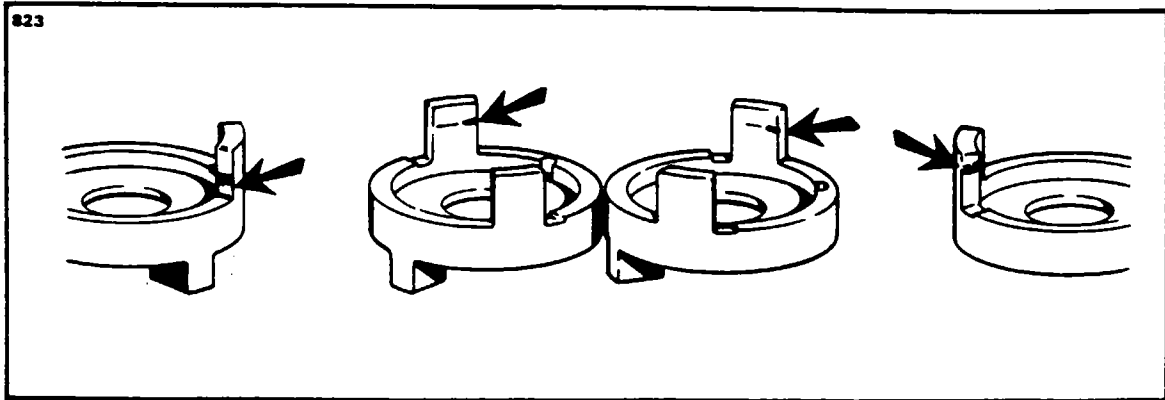

Figure 8-22. Points of Coupling Body Wear
f. Inspect ears of the coupling body for grooves worn by the tail of the flyweights and wear at the triggering ramp and cam stop contact areas. (Refer to Figure 8-22.) If either ear shows a perceptible groove or a ridge can be felt when fingernail is drawn across the surface, replace the coupling body.